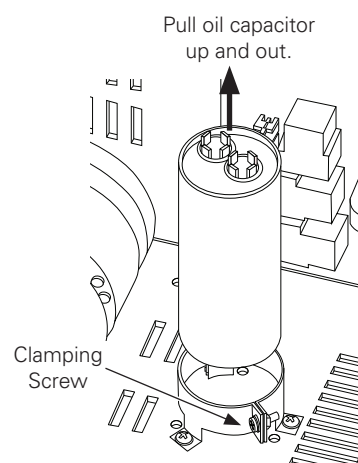

Fig. 3, Replacing Oil Capacitor
Note: If the terminals are not easily accessible, loosen the Phillips-head clamping screw (**Fig. 3**) and rotate the oil capacitor until the terminals are accessible.
5. If not done in the previous step, loosen, but do not completely remove the Phillips-head clamping screw of the mounting bracket (**Fig. 3**), then pull the oil capacitor straight up from its mounting bracket.